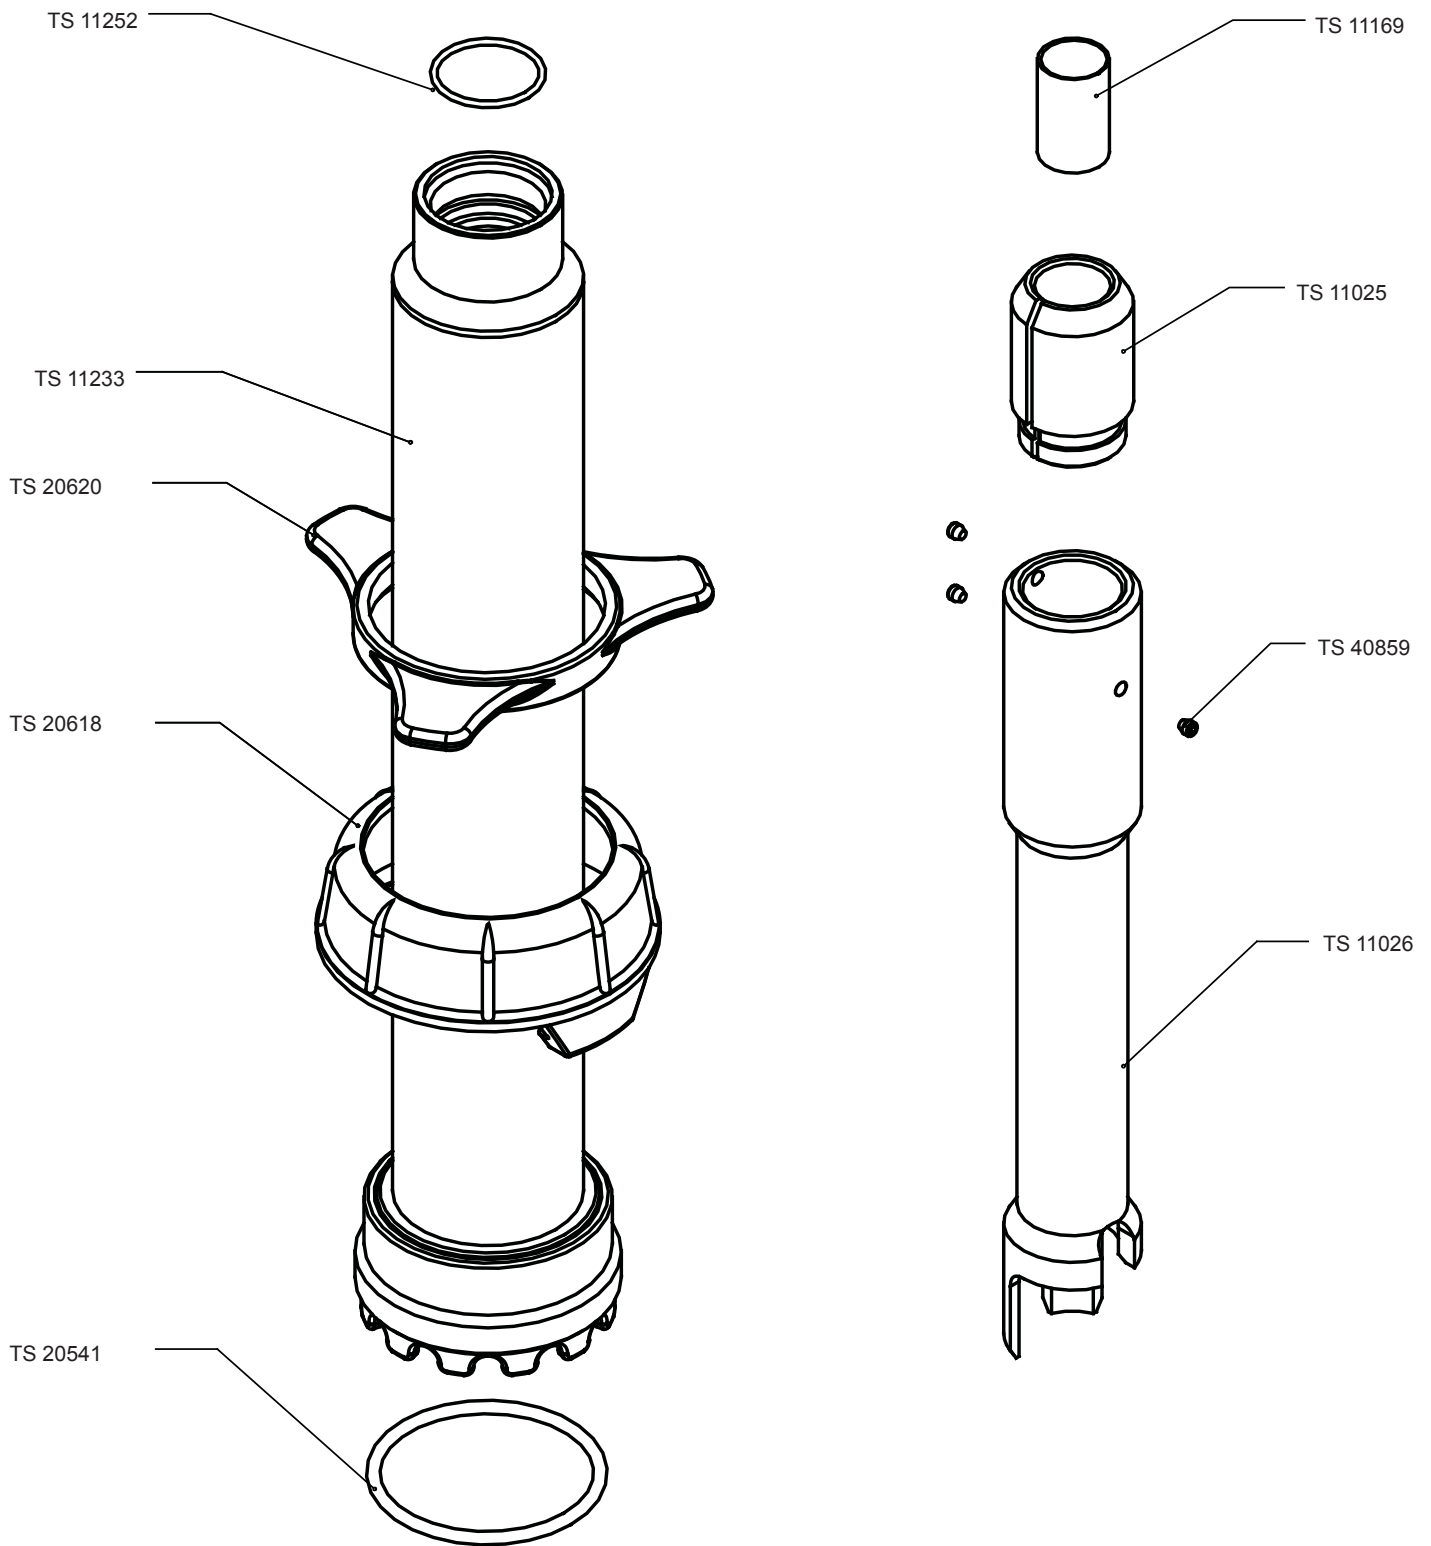

Figure 13-7: storage tube SS2-Q2 with load TS 10182, details
- Figure 13-7: storage tube SS2-Q2 with load TS 10182, details